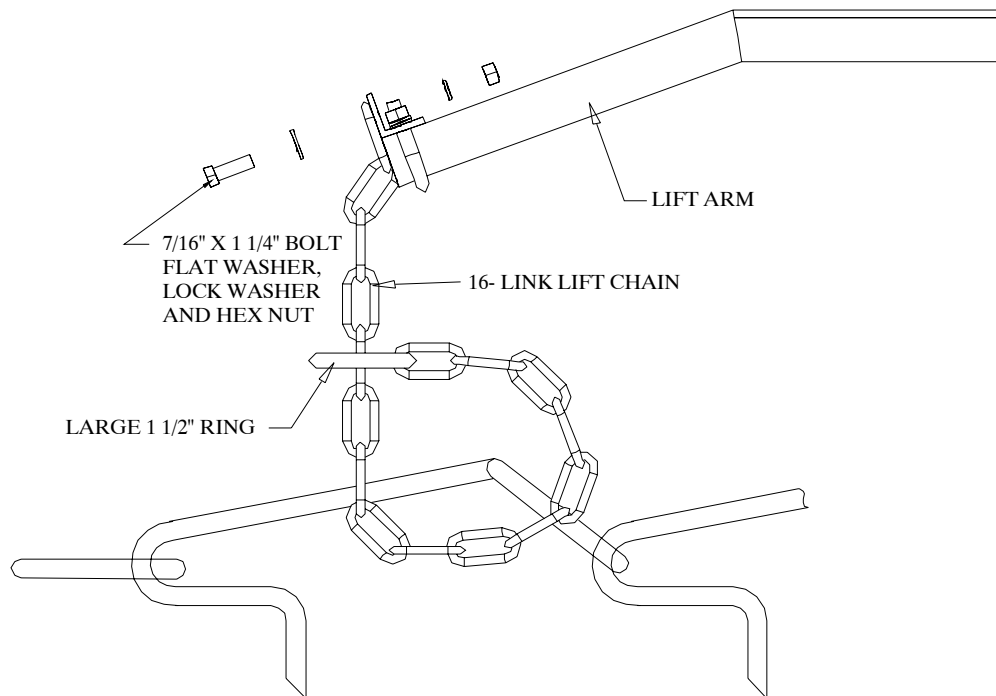

Figure 17
Refer to Figure 17 below. The left and right wing rests can be differentiated by noticing the small angle welded to the side of the arm. The angle should be on the front side of the arm when the arm is in position on the main frame.
2. With the center bar and wings in the upright position, swing the wings forward. Place the wings in the wing rests as shown in Figure 17. If the wing tube height does not line up with the wing rest, the stop bolt must be adjusted (this will be done later in the final adjustment).